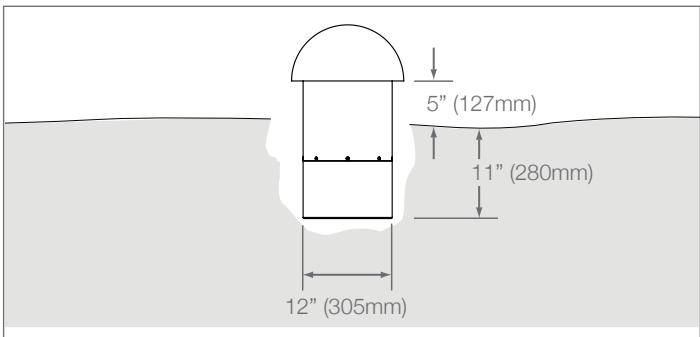

Figure 2
**NOTE: THE SUBWOOFER REQUIRES A BURIAL SPACE THAT IS ABOUT 12" DIAMETER AND 11" DEEP. WHEN THE SUBWOOFER IS IN THE GROUND, ENSURE THAT THERE IS ROUGHLY 5" OF EXPOSED SUBWOOFER ENCLOSURE FROM THE SURFACE OF THE GROUND TO THE BOTTOM EDGE OF THE CANOPY. SEE FIGURE 2.**